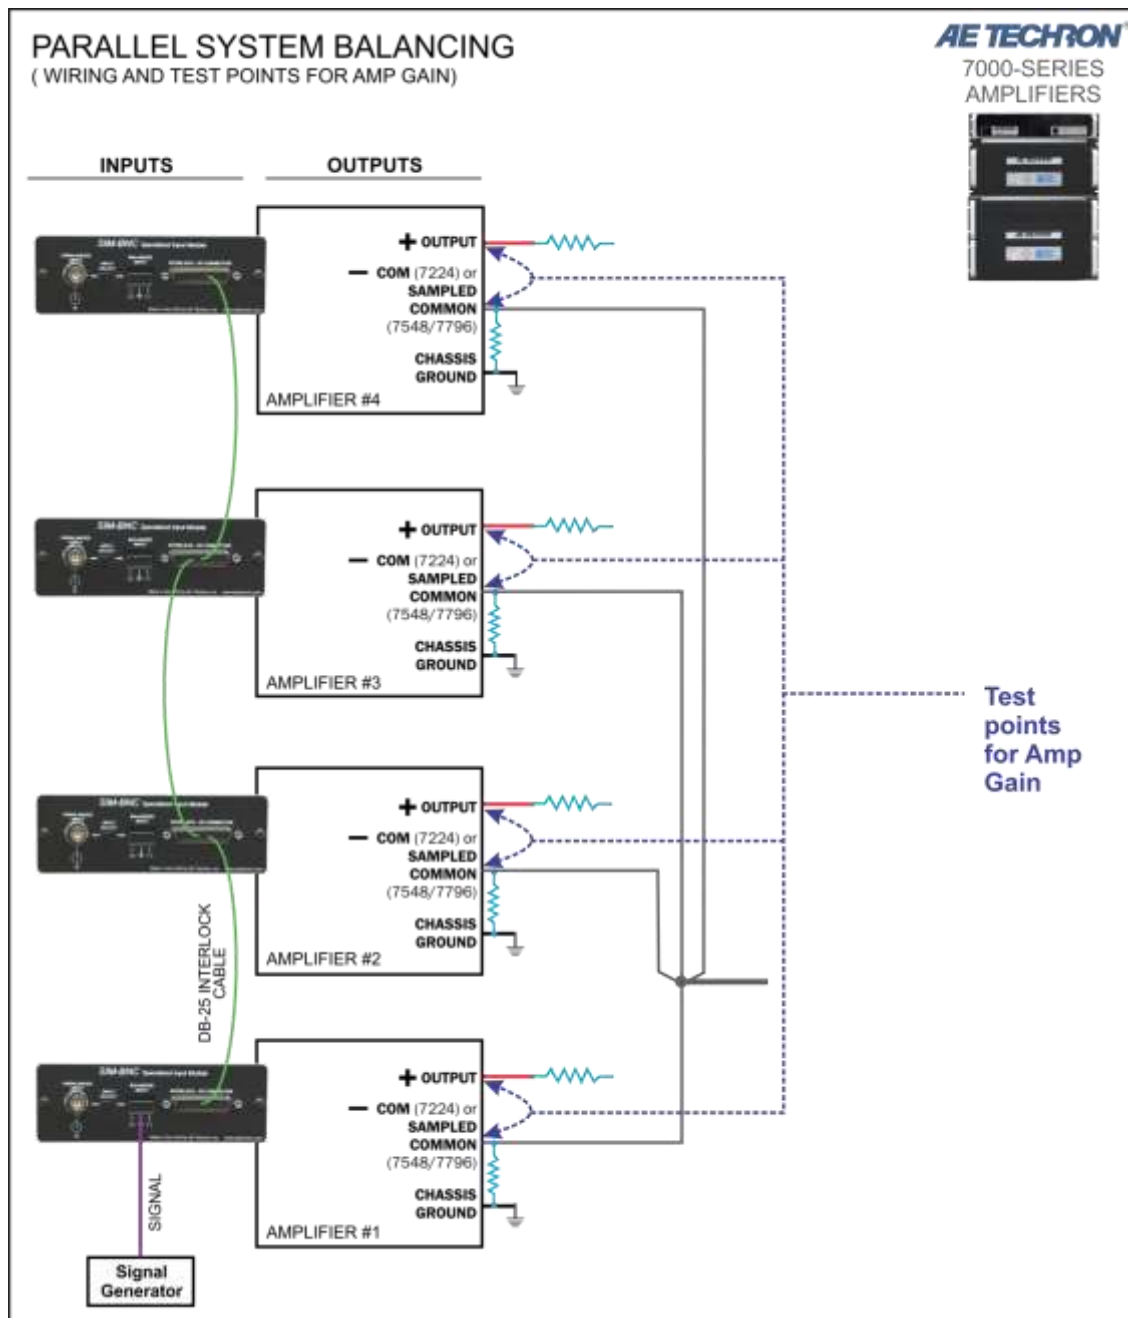

Figure 4.14– Wiring and Test Points for Amp Gain
2. Connect a digital voltmeter set to AC volts between the OUTPUT and COM terminals of the first amplifier. See **Figure 4.14**.